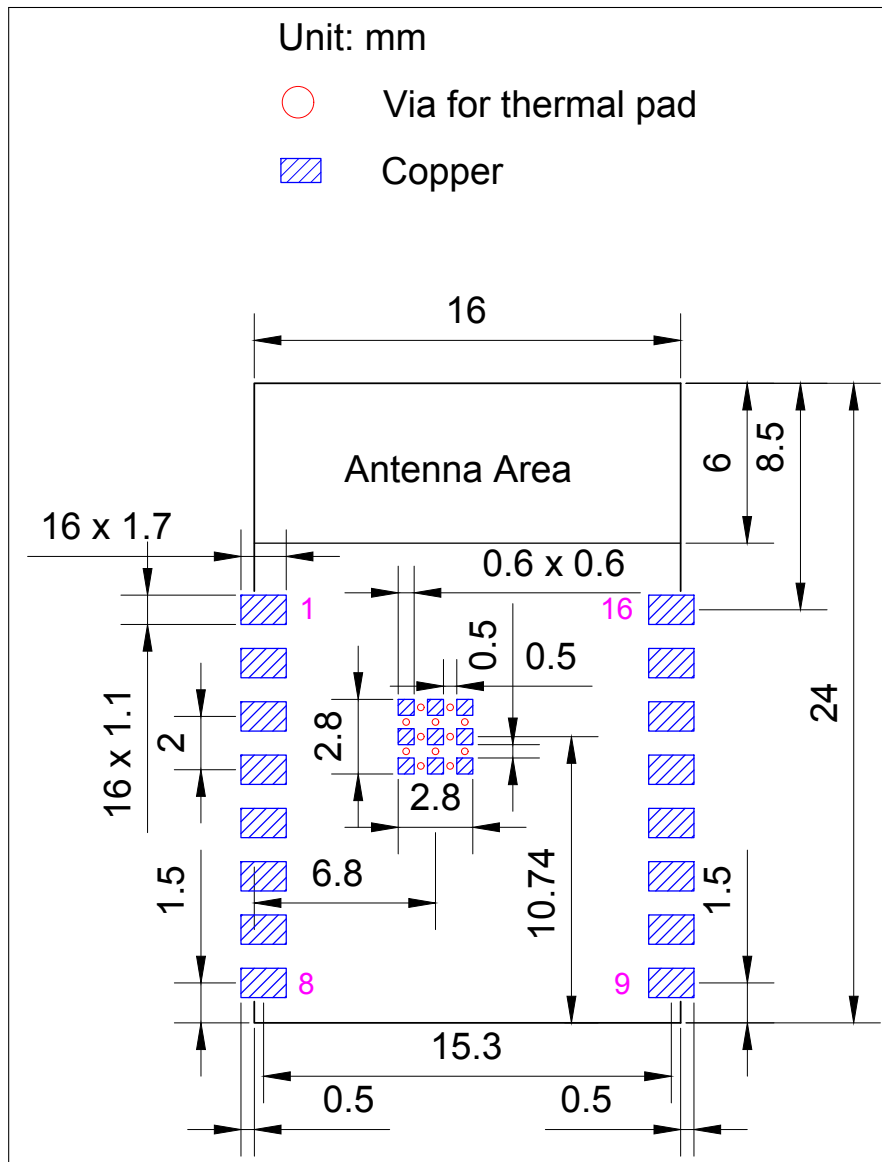

Figure 7: Recommended PCB Land Pattern
- Figure for the recommended PCB land pattern with all the dimensions needed for PCB design. See Figure 7 *Recommended PCB Land Pattern*.
- Source file of the recommended PCB land pattern to measure dimensions not covered in Figure 7. You can view the source files for ESP8685-WROOM-04 with Autodesk Viewer.